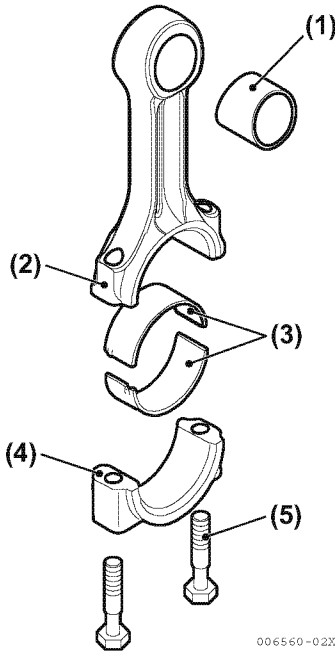

Figure 5-94
The connecting rod is made of high-strength forged carbon steel. The large crankshaft bearing is equipped with a bearing cap and a two-piece aluminum bearing insert assembly. The piston pin bearing is a non-serviceable copper alloy bushing that is factory-installed (**Figure 5-94, (1)**).